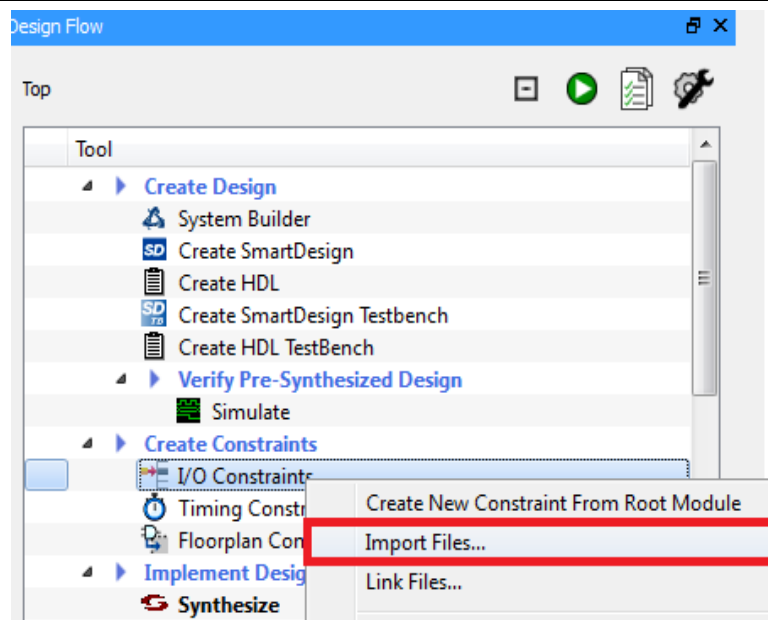

Figure 34 Importing the PDC Constraint File
1. Expand **Create Constraints** in the **Design Flow** window. Right-click **I/O Constraints** and select **Import Files**, as shown in Figure 34.